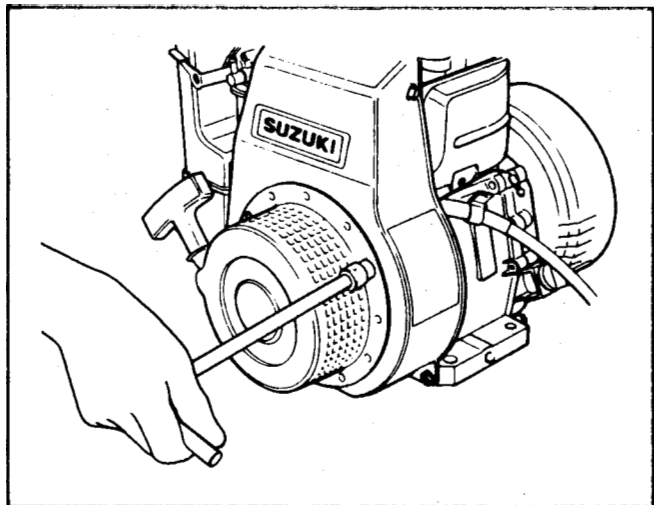

Figure 63
16. Remove the recoil starter as shown in Figure 63.